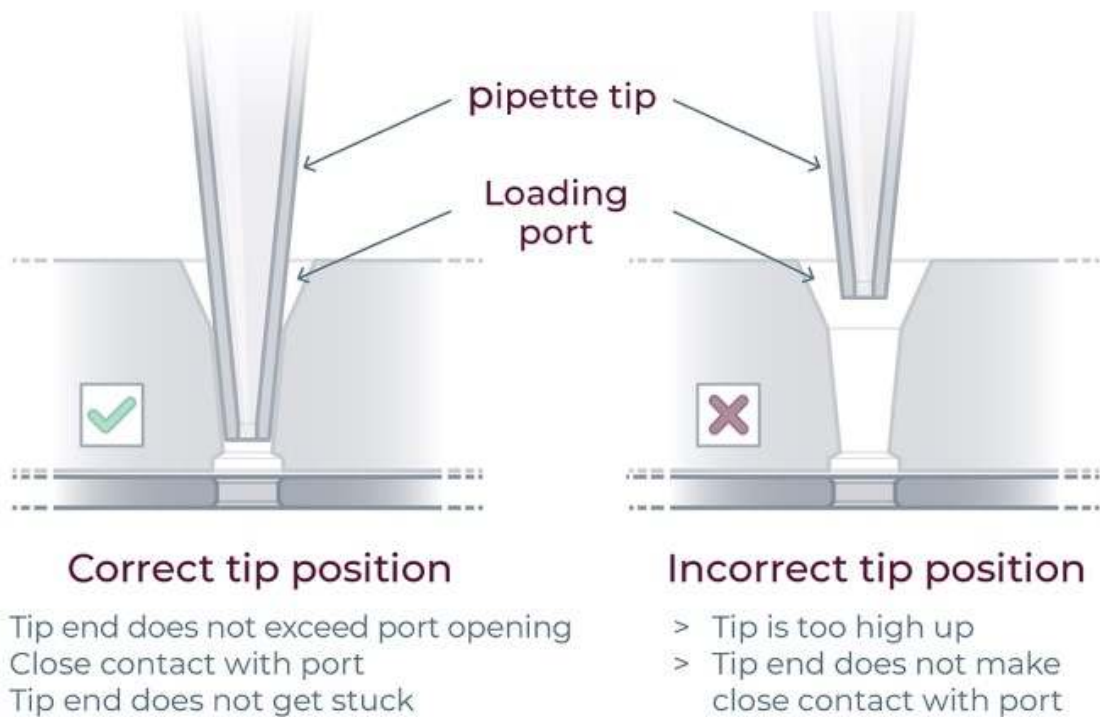

Figure 29: For manual correction of the reagent loading to correctly form the reservoirs on cartridge
Note: Any presence of a marker on the reservoir is acceptable, as shown on the top right of Figure 29
- ▷ Re-engage the tip until reaching the bottom to the port and dispense the reagent slowly until correction is complete (Figure 29).